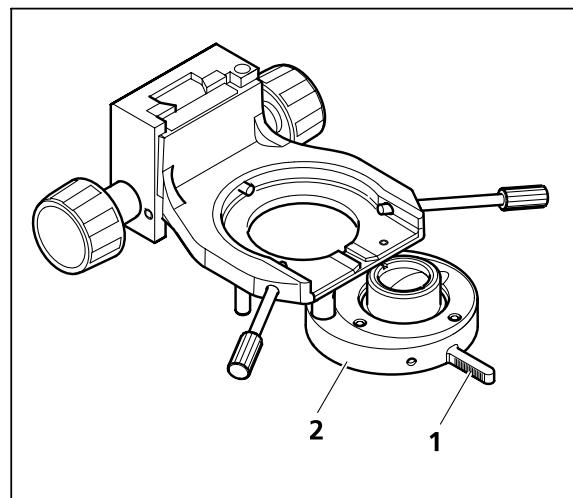

Fig. 4-35 Overview fixture
- Swing the overview fixture (Fig. 4-35/2) in or out of the beam path with the aid of the handle (Fig. 4-35/1). Make sure to engage the fixture securely after swinging it in.